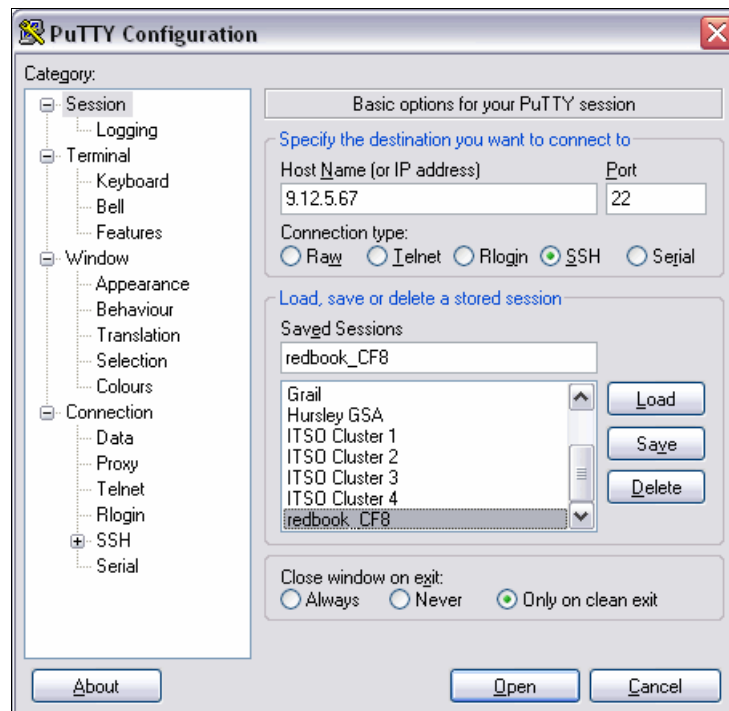

Figure 16-24 Specifying the IP address
- The IP address of the SAN Volume Controller cluster. To set this parameter, select **Session** at the top of the left pane of the PuTTY Configuration window, as shown in Figure 16-24.